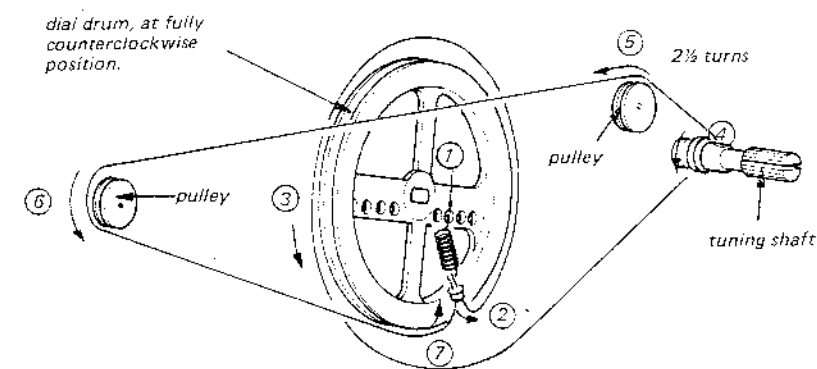

Fig. 2-6
2. String the dial cord in the numerical order as shown in Fig. 2-6 below.